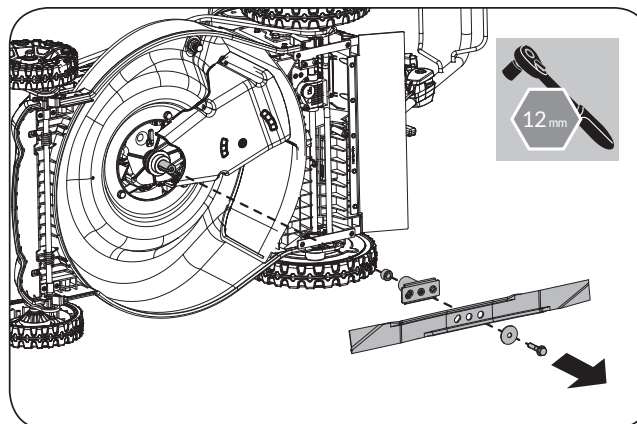

Figure 32
1. Remove the blade. (See **Figure 32**)